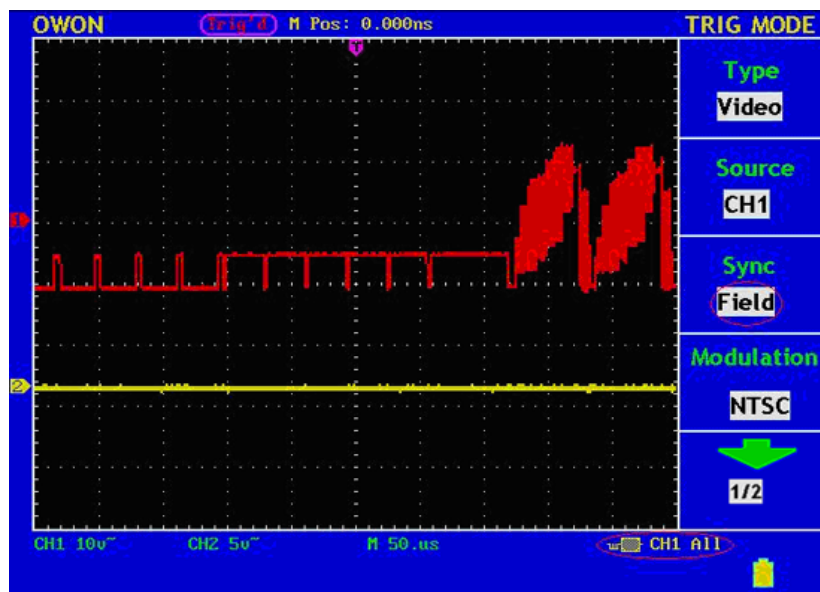

Fig.34 Video Trigger (Sync mode: Field)
4. Press **F3** next to Sync and select **Field**. The screen display is shown as Fig.34.